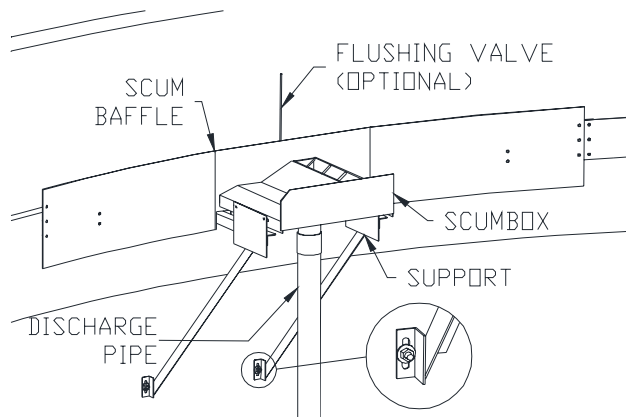

Figure 2.SB.3.
6. Recheck the final elevation of the scum box as part of the final adjustment of the entire mechanism. The final elevation of the scum box must be set so that the bottom wiper on the hinged skimmer is in uniform contact or parallel with the leading edge of the crest of the trough. The top of the scum ramp will be 1 ½ inches above the water level. See Figure 2.SB.2.